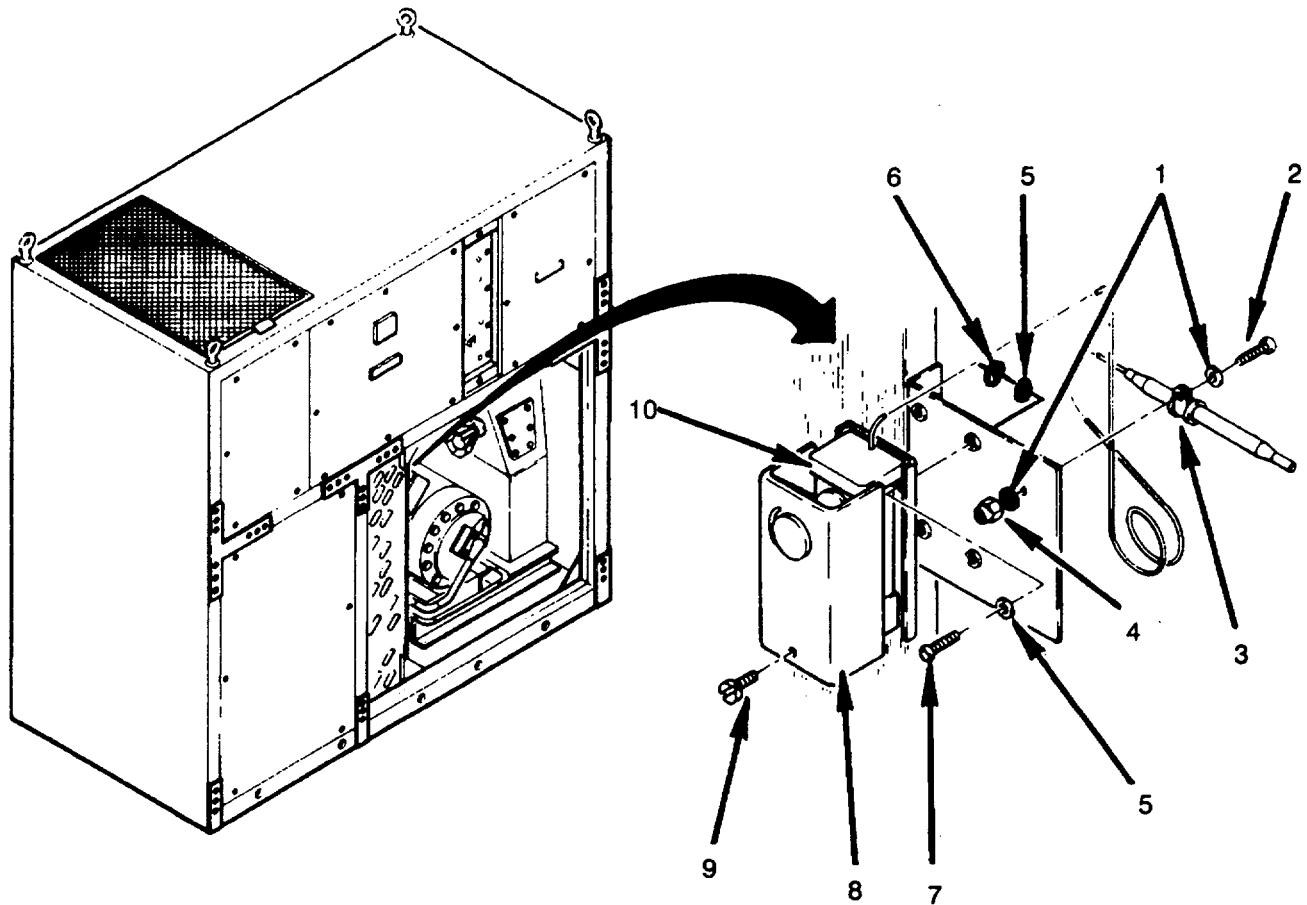

Figure 4-86. Low Ambient Temperature Thermostat (S13)
1. Check that leads are properly connected before (see Figure 4-86 and Figure FO-3).
3. Check thermostat (10) for signs of overheating or other obvious damage. Replace if damaged.